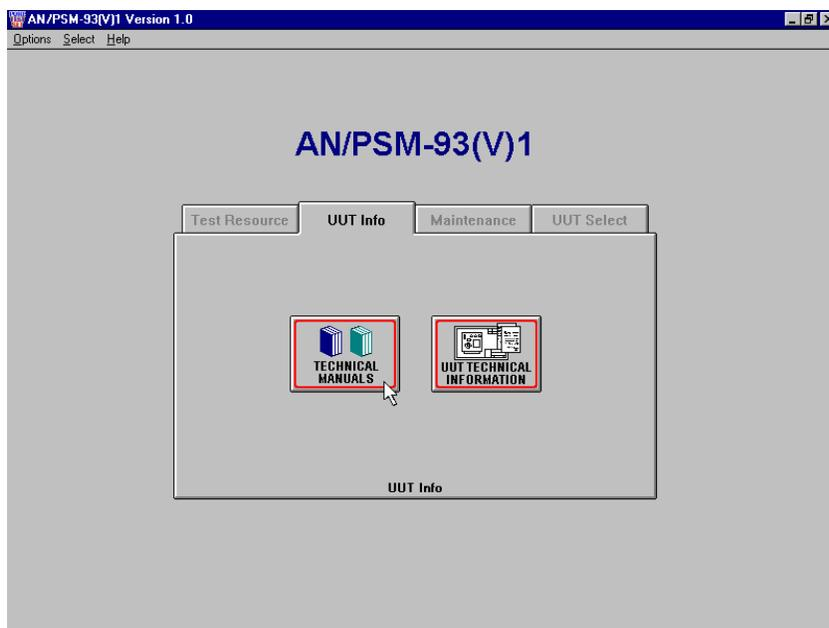

Figure 14. UUT Technical Manuals Screen
4.2 Operation. To access the 2MPP database, point and click on the 2M PIECE PARTS icon from the AN/PSM-93(V) MAINTENANCE folder. The BROWSE BY NIIN window will open and the operator can use the scroll bars or arrow keys or scroll through the database. (See Figure 14, 2MPP Screen, below)